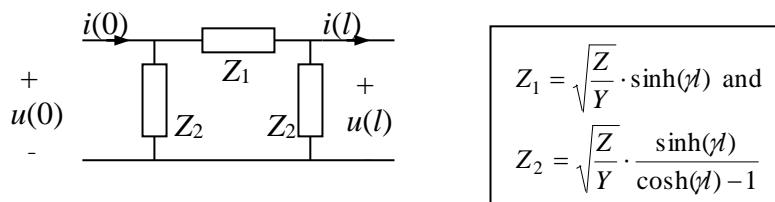

Fig. 7.4 – Exact PI-equivalent
Due to the present quadratic term, the result in (13) will be less accurate than for distributed parameters models. Care must be taken to prevent wrong results for long transmission lines. For example, by splitting the line up in smaller segments. In constant parameter distributed parameter line models the series resistance  $I$  is concentrated at each end ( $R/4$ ) and at the middle of the line ( $R/2$ ). This will result in some different formulations than in (13), with accuracy dependent on  $R$ . A solution to this problem is to request ‘EXACT PHASOR EQUIVALENT’ [2, 3] which prevents ATP from using lumped resistance. In such case the “exact pi” equivalent is used (as is also the case for frequency dependent transmission line models in ATP). The exact PI-equivalent is on the form shown in Fig. 7.4.